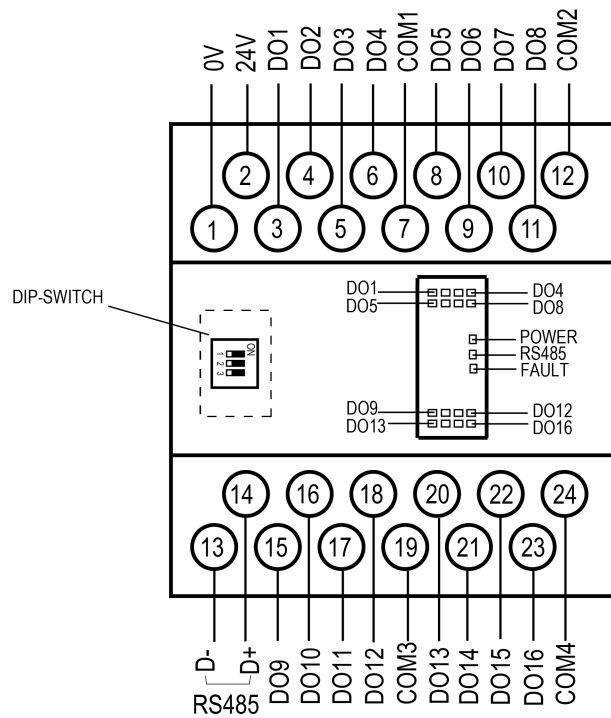

Fig. 5.1 Electrical connections
2. Open the front cover of the module (see Fig. 5.1).
The electrical connections are shown in Fig. 5.1 and the terminal assignments in Table 5.1.
- If there is inductive load on an NPN output, it is recommended to connect VD diode (100 V, 1 A) to protect the transistor (see Fig 5.1).